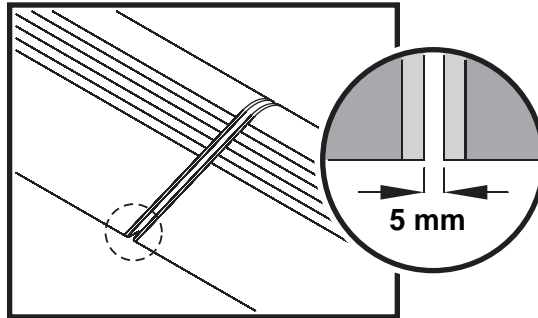

Figure 1: Clearance between luminaires
It is important to allow a clearance of exactly 5 mm between luminaires (see Figure 1) so that waterproofing is maintained while leaving enough space for thermal expansion.
6. Allowing 5 mm of clearance between the two luminaires as shown in Figure 1, fasten the second luminaire by means of the captive nuts and mounting screws.